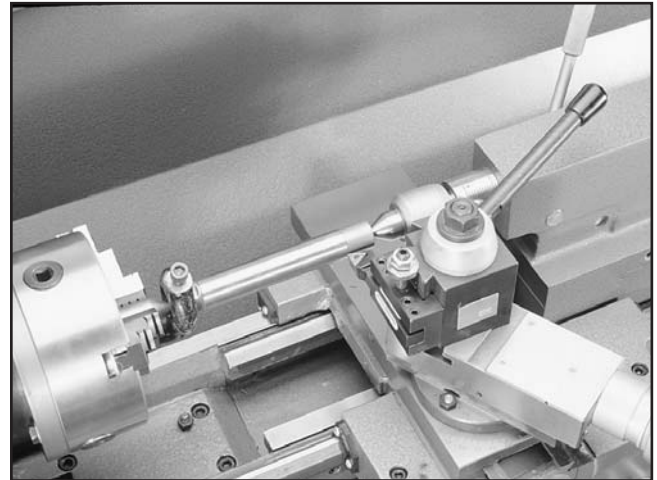

Figure 41. Bar stock mounted between centers.
5. Attach a lathe dog at the spindle end of the bar stock from **Step 2**, then mount it between the centers (see **Figure 41** for an example).